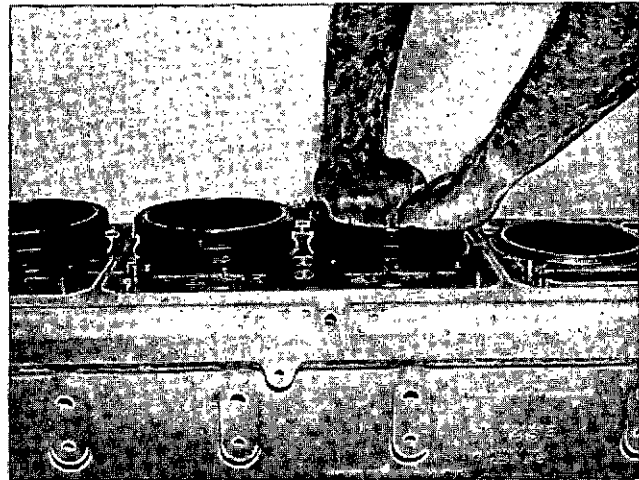

Fig. 14-9 (N114106). Use A Quick Push To Put The Liner Into The Bore.
4. Put the cylinder liner into the bore in the cylinder block. Make sure the O-rings and crevice seal do not move from the grooves on the cylinder liner. Install the cylinder liner into the bore with a quick push as shown in Fig. 14-9.